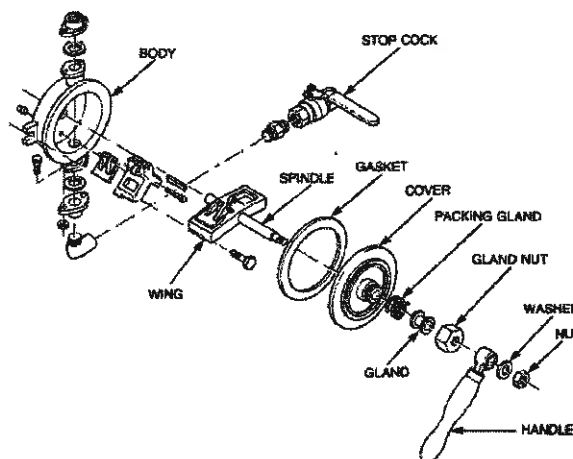

Figure 54 Priming Pump - Exploded View
- b. Remove the nut, washer and handle from the spindle (Figure 54).